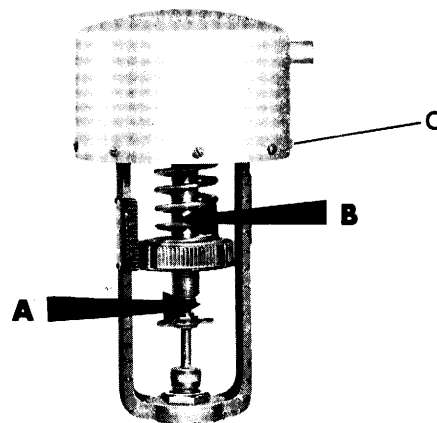

Fig. 1
- (1) Turn adjusting wheel to left (see arrow B, Fig. 1) until adjusting wheel is all the way down.
- (2) Remove screws "C" (Fig. 1) and lift off element.
- (3) To install element reverse the above operations.